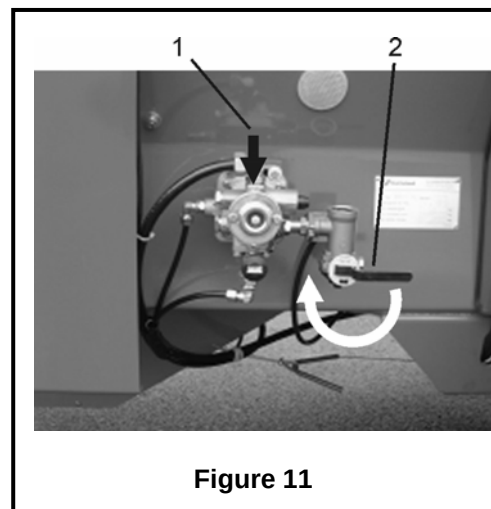

Figure 11
NOTE! When the machine is uncoupled the air brakes will be automatically applied. In order to transport the machine without re-connecting the air brakes, open the dump valve (item 1, figure 11) to release the air pressure within the braking mechanism.